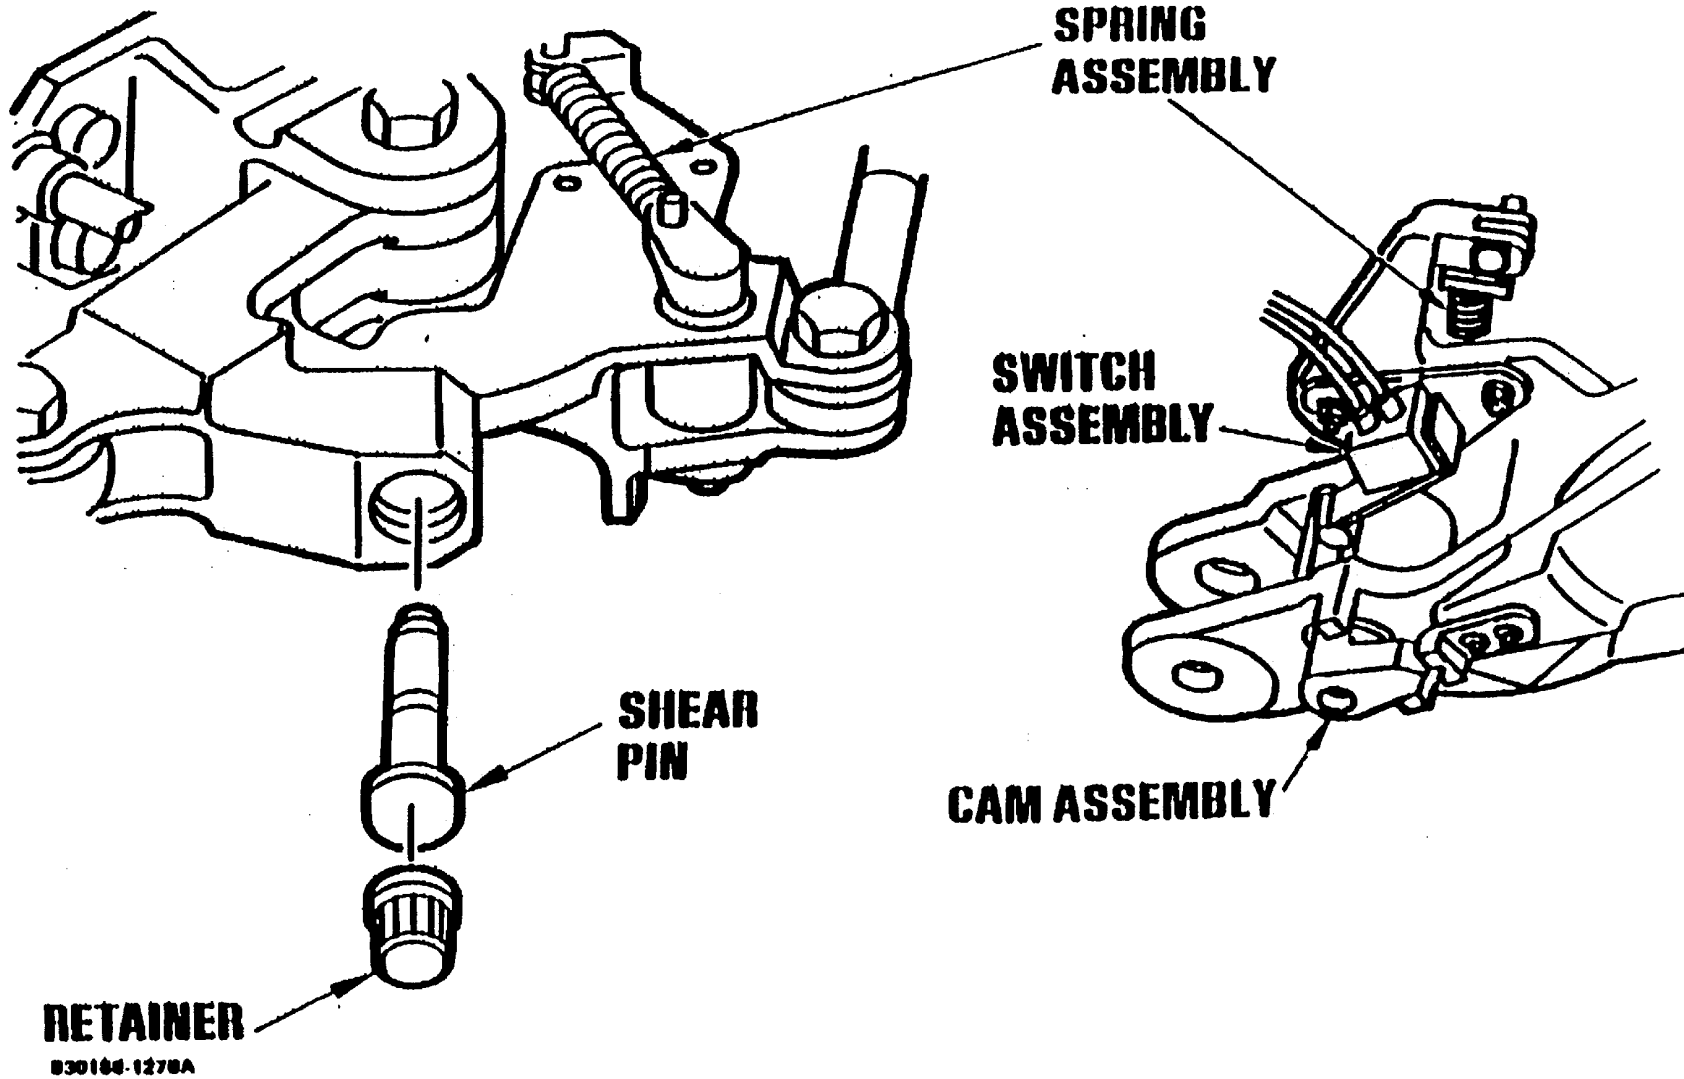

Figure 2. Typical SPAD Assembly.
(25) Gain access to the Pilots Collective SPAD Assembly by reworking the Pilots Collective Stick Cover, task 11.44. Also, remove access cover L160, reference task 2.3.
(26) Visually inspect the switches (S1 & S2) for security using a flashlight and inspection mirror. Reference paragraphs 8.c.(7) and 8.c.(8) for inspection criteria.
(27) Check for continuity from pin 66 (common) on P682 to pins 127 (S1) and then 128 (S2) on P688. Reference figure 2. If continuity is present rotate the Mechanical Cam in the other direction (opposite). Recheck continuity (Pin 66 to 127 and then to 128).
(28) If continuity is not present refer to paragraph 8.c(16) for corrective action.
(29) Reconnect the DASE Computer connectors (P682, P686 & P688). Reset (close) the BUCS circuit breaker in the Pilot's station (center C/B Panel).